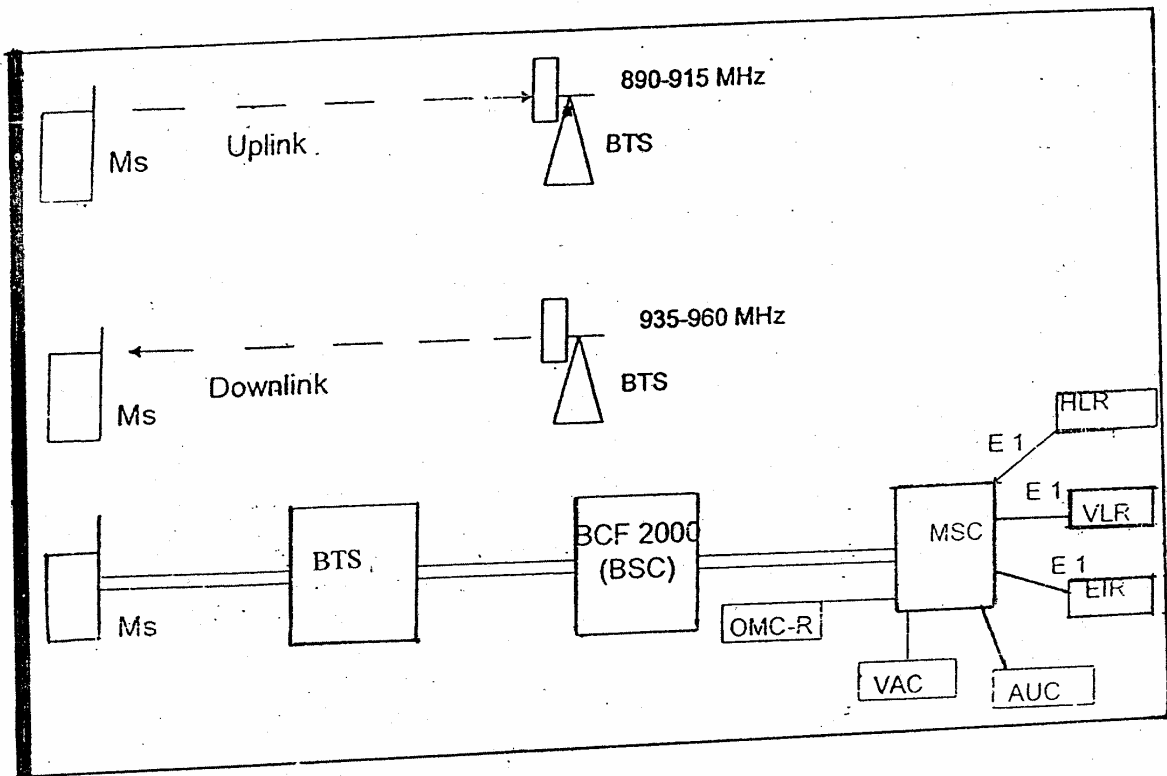

Fig. 3-3
6. Pl. see block schematic of GSM network in Fig. 3-3 and Lucent BTS front view in Fig. no. 3-2, 3-4, & 3-5.